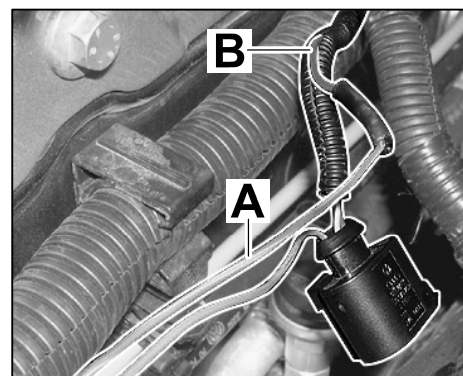

Figure 33
- 4.7.4 Crimp original line (BU/YE) from connector for air-conditioning pressure switch ⇒ *Figure 33 -B-* and second line (BU/GY) from retrofit kit ⇒ *Figure 33 -A-* together. To do this: Remove approx. 15 mm of insulation from the ends of the lines, slide shrink-fit hose over one end of the lines, crimp together with an insulated cable connection, slide shrink-fit hose over the insulated cable connection and shrink hose with a hot-air gun to make it watertight.